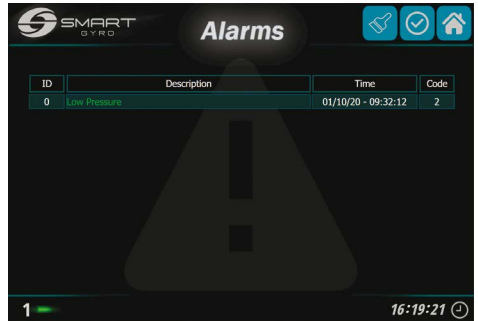

Figure 32
Alarms not present anymore in the system can be removed from the list (Figure 32), pressing the paint brush symbol icon (Figure 29, (3)). As in the performance monitor page (see next paragraph), the bottom right corner shows the ID number of the gyro the anomalies refer to.